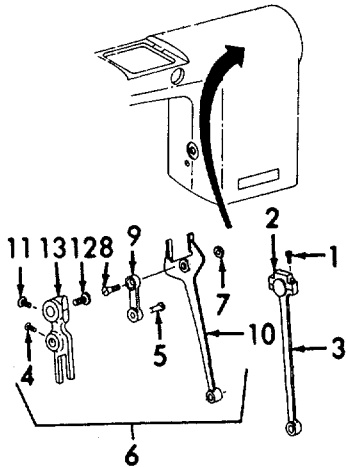

Figure 6-76. Upper Feed Assembly, Removal.
- (9) Refer to Figure 6-76. Use the access holes at the top of the arm and remove two screws (1) and connecting rod cap (2).
- (10) Remove the connecting rod (3) out the bottom of the arm.
- (11) Loosen the setscrew (4) and remove the pin (5).
- (12) Remove the feed fork assembly (6).
- (13) Remove the nut (7), screw (8), and the regulator link (9) from the feed fork (10).
- (14) Remove the setscrew (11), pin (12), and the feed regulator (13).